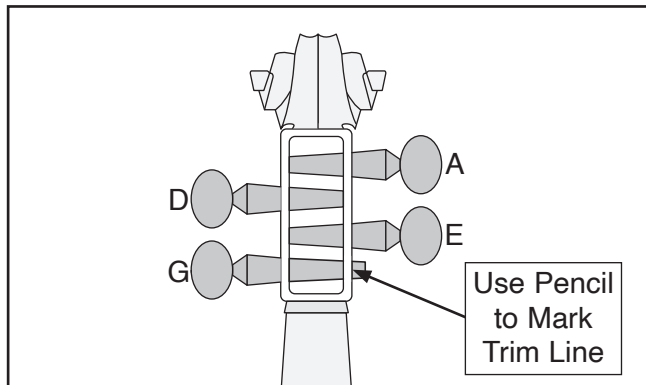

Figure 12. Marking overlap of tuning pegs.
8. If tapered end of peg(s) protrudes from peg box, use a pencil to mark overlap (see **Figure 12**).